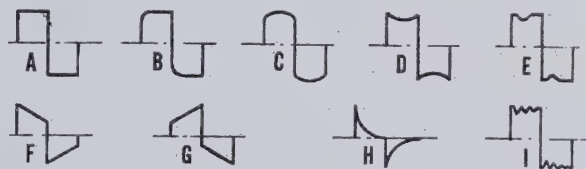
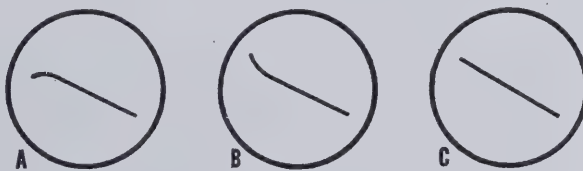

Fig. 6
Fig. 8
- Fig. 6. Connect a brown lead from TB15-3 (S) to R64-2 (S), passing the lead along the strut as shown (Fig. 8).
- Fig. 6. Connect a green lead from TB15-2 (S) to J7 (S), passing the lead along the strut as shown (Fig. 8).
- Fig. 6. Mount the CRT socket on the tube base. The locating pin should point up.
- Fig. 6. Connect the green twisted pair from the transformer to the CRT socket, XV10-1 (C) & 12 (S). Leave at least 1" of slack in all CRT connections.
- Fig. 3. Connect a grey lead from TB8-2 (C) to XV10-1 (S) (Fig. 6).
- Fig. 3. Connect the green lead from TB8-3 to XV10-2 (S) (Fig. 6).
- Fig. 12. Run a brown lead along the strut from TB18-1 (S) to XV10-3 (S) (Fig. 6).
- Fig. 12. Run a blue lead from R75-2 (S) over the rear bezel, past R72, and along the strut. Connect the other end to XV10-4 (S) (Fig. 6).
- Fig. 6. Connect the blue lead from XV7-2 to XV10-10 (S).
- Fig. 6. Connect the blue lead from XV7-1 to XV10-9 (S).
- Fig. 6. Connect the green lead from TB13-1 to XV10-6 (S).
- Fig. 6. Connect the green lead from TB13-4 to XV10-7 (S).
- Fig. 3. Connect the grey lead from R81-2 to XV10-8 (S) (Fig. 6). (SHIELD)
- Fig. 3. Connect the red lead from TB4-1 to S2-2 (S) (Fig. 8).
- Fig. 3. Connect the yellow twisted pair from XV9-2 & 7 to XV7-3 & 4 (S). (Fig. 6)
- Fig. 12. Connect a green lead from TB18-3 (S) to J9 (S) (Fig. 8).